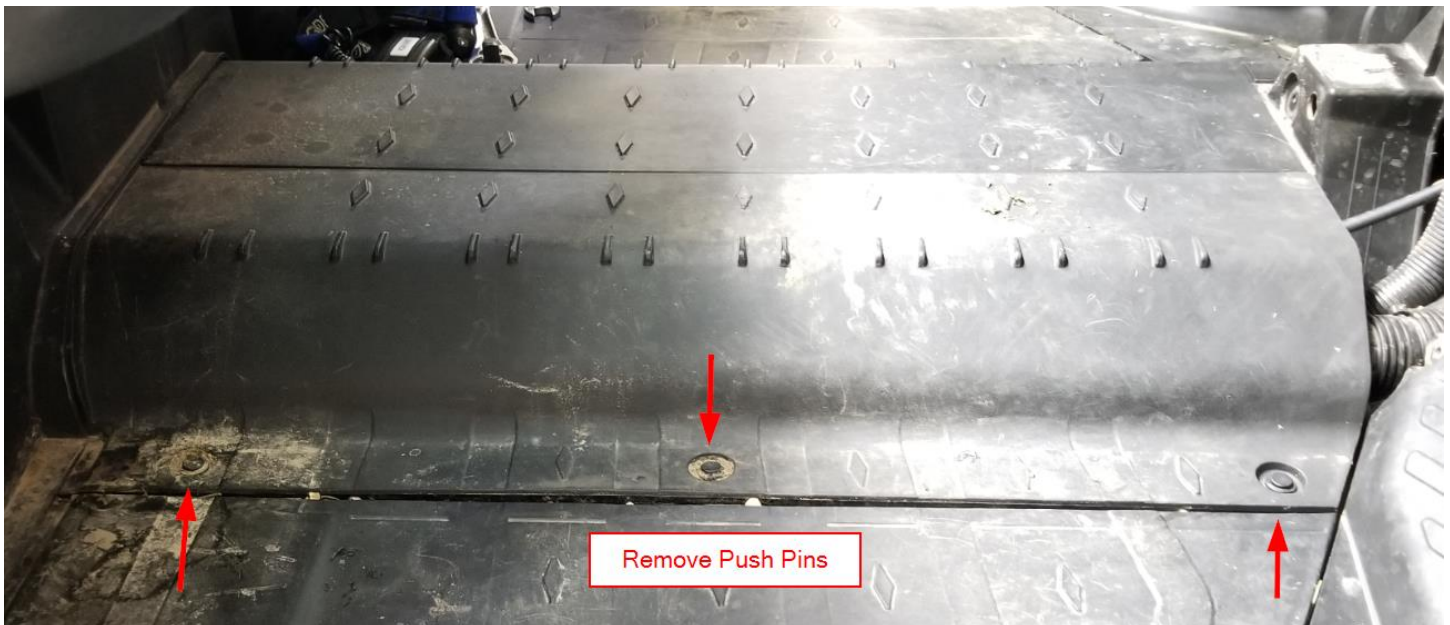

Figure 4
- f. Lift up the passenger and center seat to gain better access to the center tunnel cover. Remove the passenger side center tunnel cover as shown in Figure 4